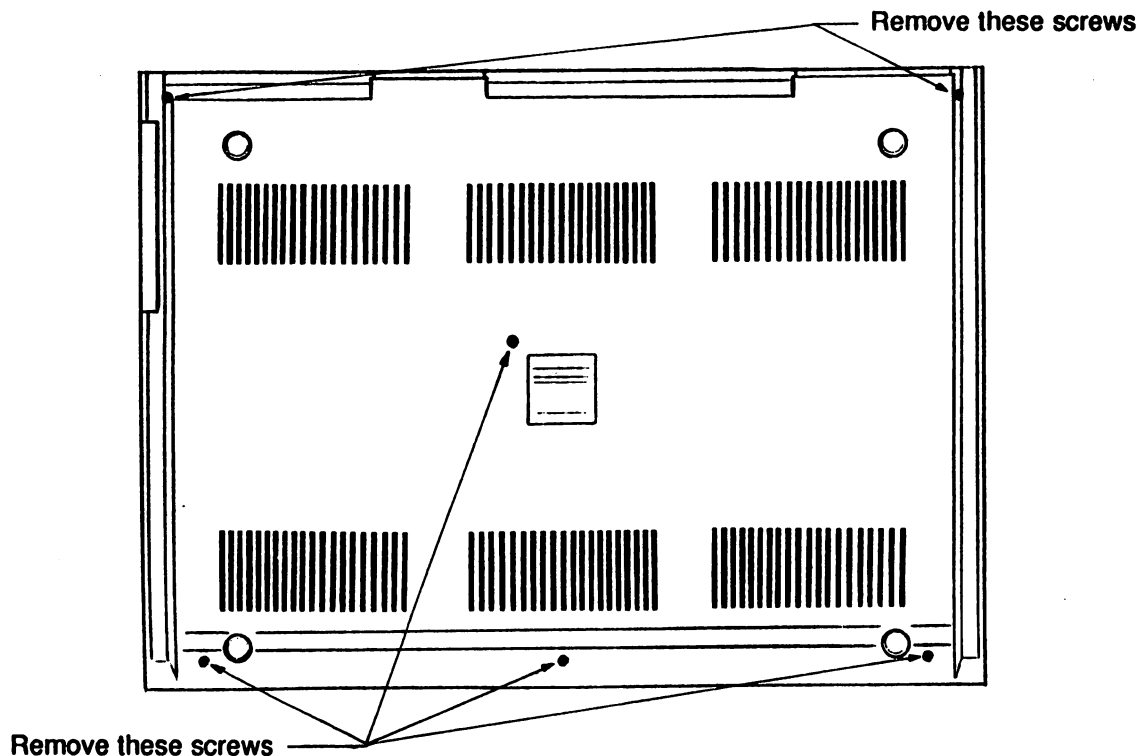

Figure 1 C-128 CASE SCREW REMOVAL
5. Turn the C-128 upside-down. Remove the six screws holding the top and bottom halves of the computer together. See Figure 1 below.